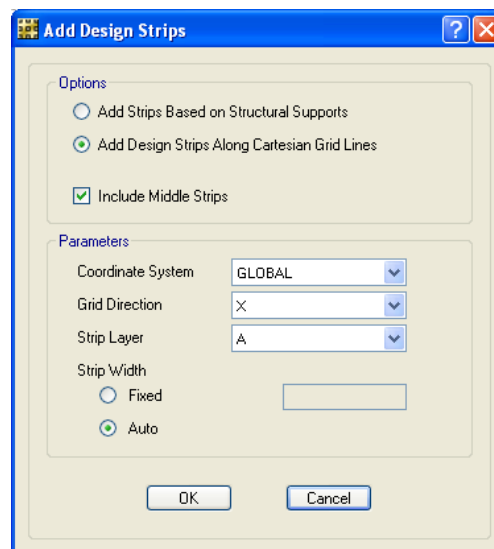

Figure 30 Add Design Strips form
- A. Click the **Edit menu > Add/Edit Design Strips > Add Design Strips** command to display the Add Design Strips form shown in Figure 30.